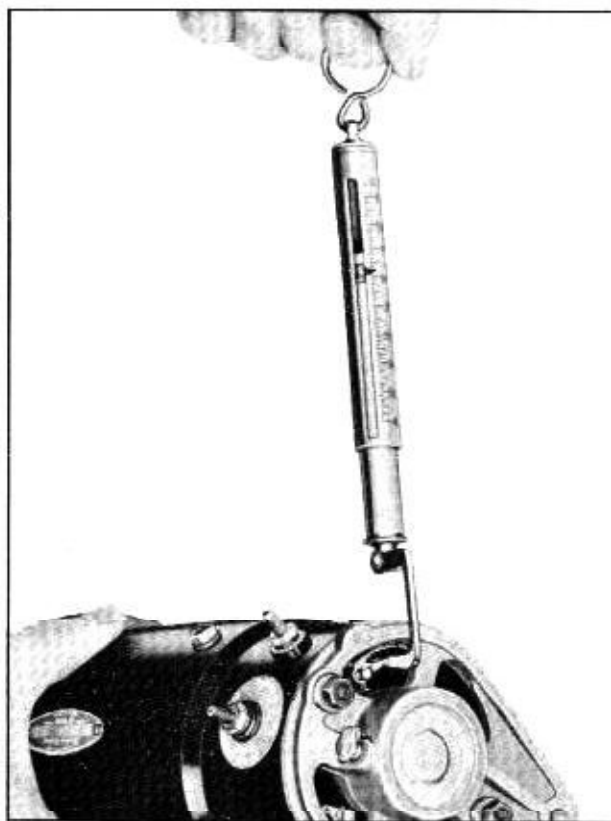

Fig. 13-21 Checking Brush Spring Tension
1. Check brush holders for bends or deformities which might prevent proper functioning. Check brush spring tension (28 ounces) as shown in Fig. 13-21.